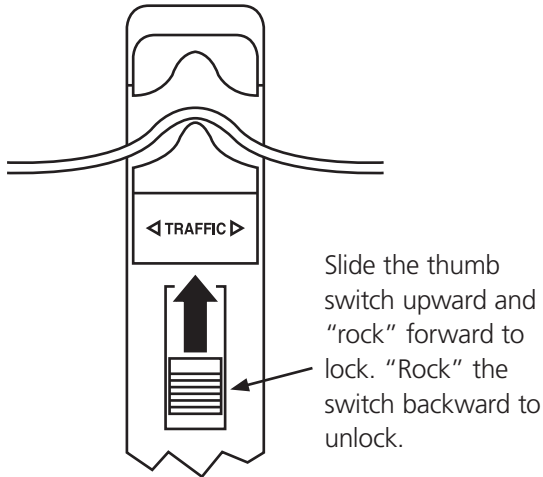

Figure 3-3. Inserting the fiber for testing.
3. Insert the fiber to be tested between the adapter and the top of the clamp (refer to Figure 3-3). Make sure that the fiber is installed properly in the alignment groove.
4. For hands-free operation, slide the thumb switch upward and “rock” forward to lock, and the fiber will be held in place (refer to Figure 3-3). “Rock” backward to unlock.